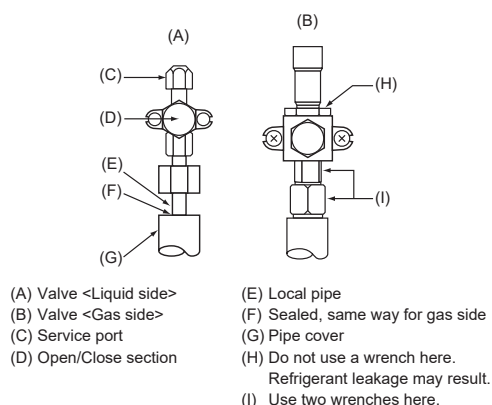

Fig. 4-5
4.4. Refrigerant pipe airtight testing method (Fig. 4-5)
- Make sure the valves (A) (B) are closed and do not open them.
- Add pressure to the refrigerant lines through the service port (C) of the liquid valve (A).